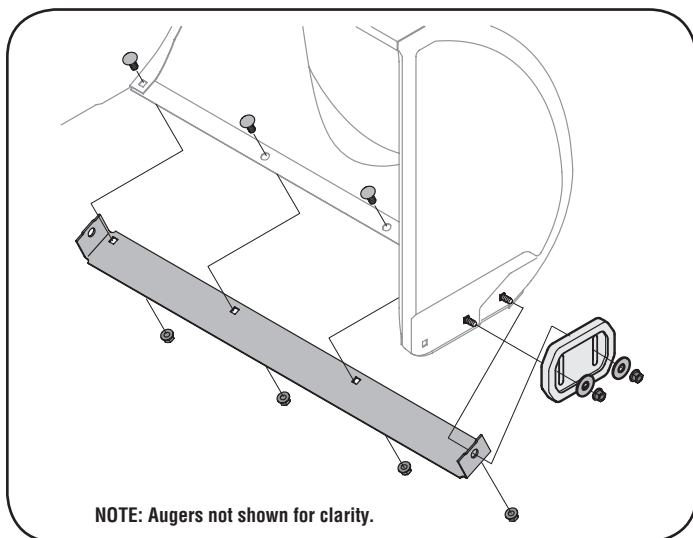

Figure 22
2. Reassemble new skid shoes with the four carriage bolts (two on each side), washers, and hex flange nuts. Refer to Figure 22.
2. Reassemble new shave plate, making sure heads of carriage bolts are to the inside of housing. Tighten securely. See Figure 22.